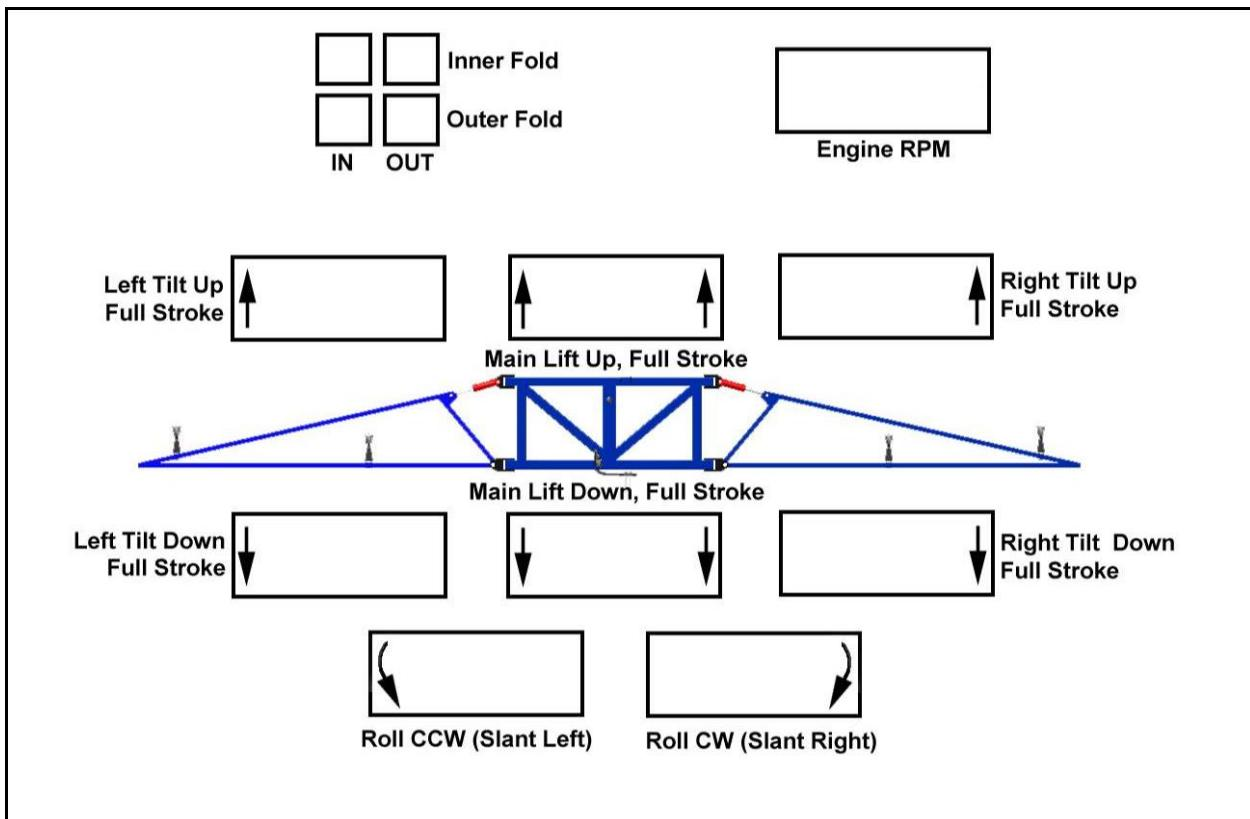

Figure 5: Pre-Install Boom Speeds
9. Not all sprayers will have the functions listed below in **Figure 5**.